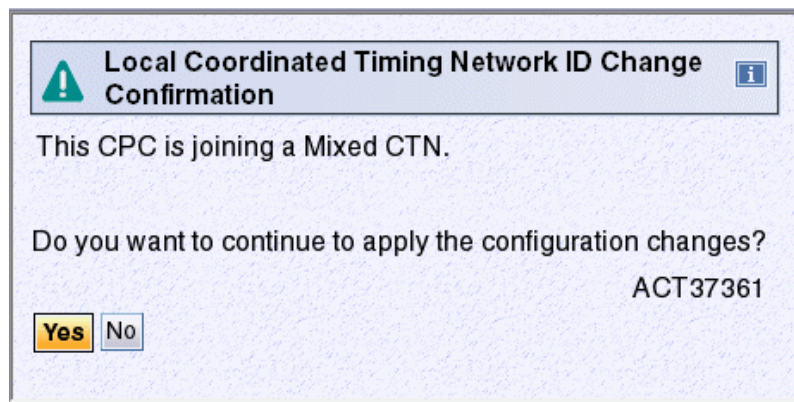

Figure 8-12 Message ACT37361 - Local Coordinated Timing Network ID Change Confirmation
4. Click **Apply**. This displays the Local Coordinated Timing Network ID Change Confirmation, message ACT37361 (Figure 8-12).